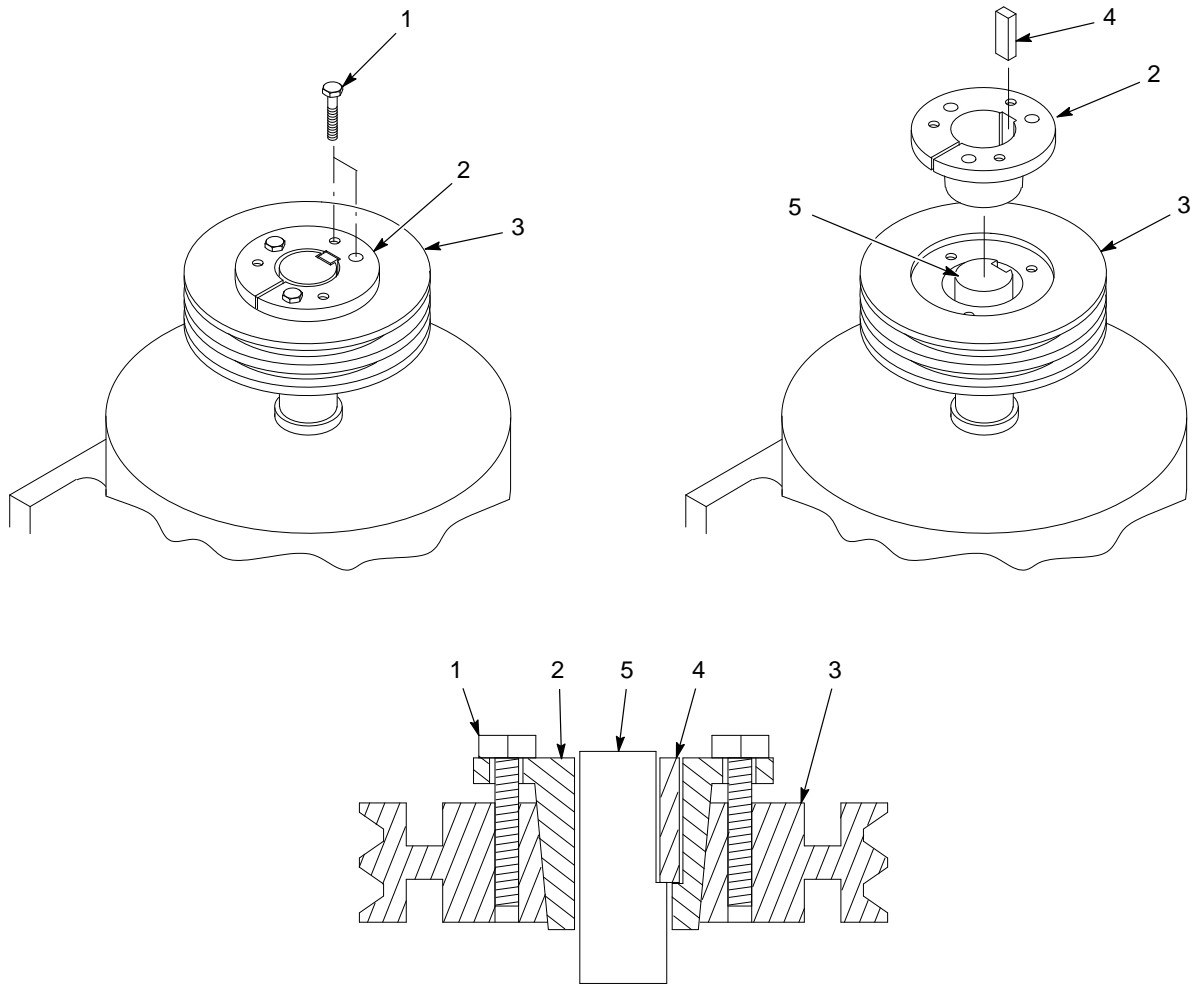

Figure 6-11 Motor Sheave Replacement
3. See Figure 6-11. Unscrew the three cap screws (1) and remove them from the unthreaded holes in the bushing (2). Thread the screws through the threaded holes in the bushing until they bottom out on the sheave (3) hub.